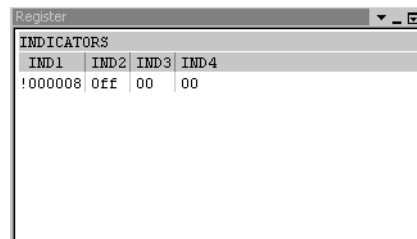

Figure 13-27 MYREG in the Register pane
2. Select **View** → **Registers** to view the new tab, **MYREG**, shown in Figure 13-27 on page 13-39.